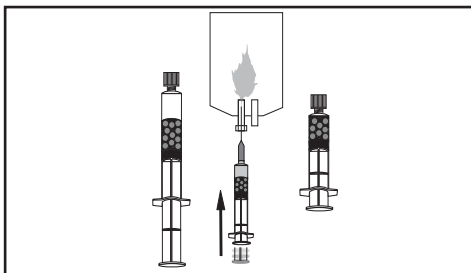

Figure 16.
- 5.5 Insert needle into a waste container and expel excess supernatant until a small amount (>1 ml) of supernatant remains in the 20 ml delivery syringe. Do not compress the microspheres by leaving a thin layer of supernatant covering the microspheres in the syringe (Figure 16).